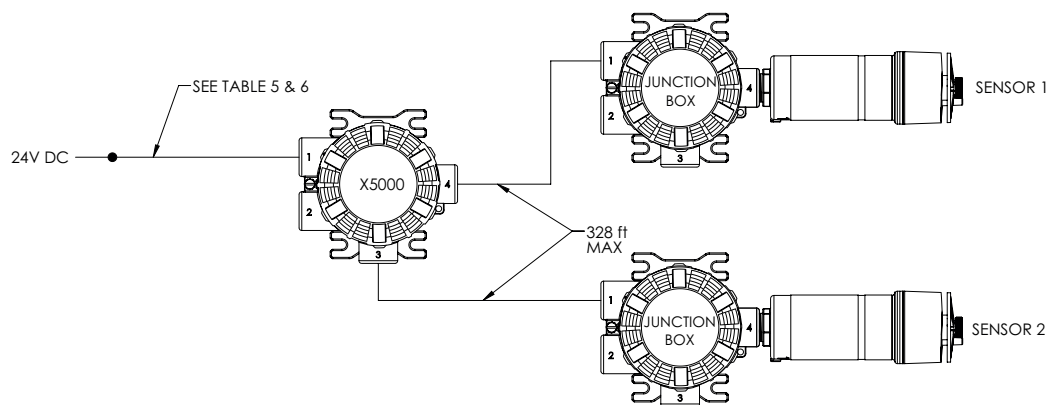
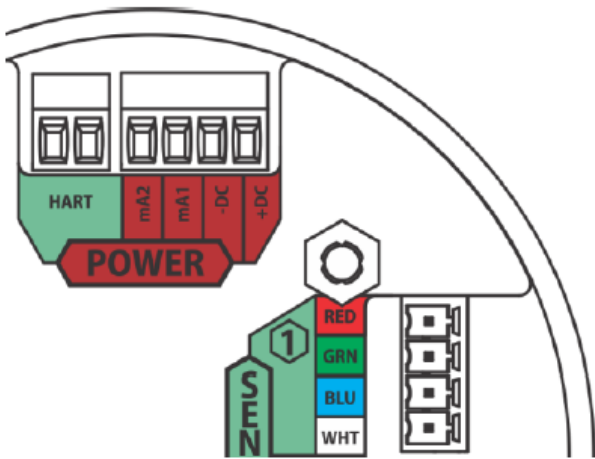
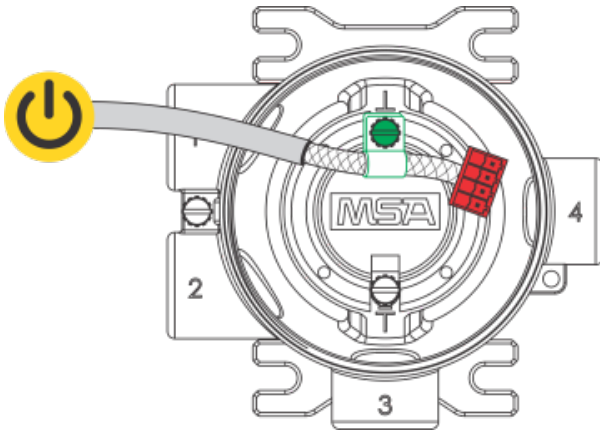
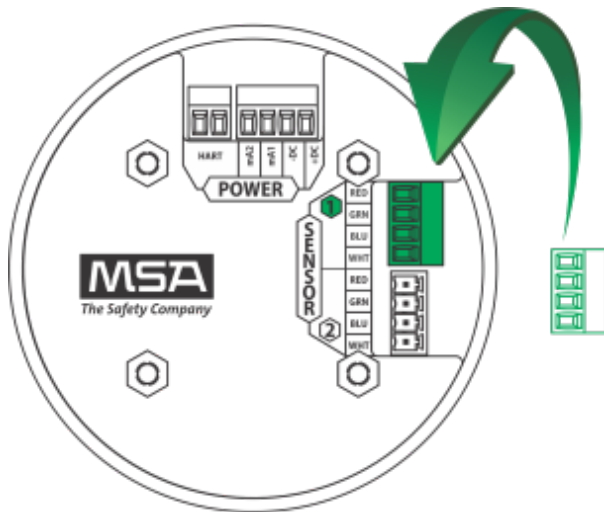

Figure 29 Two Remoted Sensors
Figure 30 Power, HART, and Sensor Inputs
Figure 31 Connecting Power and Grounding Cable
Figure 32 Connecting a Sensor to the Board
Incoming power and signal cables should be a braided shield cable such as Alpha Wire 3248 or equivalent. The braided shield must be terminated to the instrument housing with a 360 degree connection to earth ground as shown in Figure 29 or alternatively, the earth ground at the user's power source location. An external Class 2 power supply is required to supply 11-30 VDC to the ULTIMA X5000. Incoming power and signal cables should be a braided shield cable such as Alpha Wire 3248 or equivalent
Using shielded cable is recommended. The cable shield should be terminated internal to the instrument enclosure using the crimp terminal provided (see Figure 30).
6. Connect the power and analog output wires. Wire locations are marked on the cover plate (see Figure 30 Figure 29):
8. Connect shield of cable to base of instrument housing (see Figure 31 Figure 30).
11. Connect an XCell or XIR PLUS sensor using the green connector. Sensor wires are already connected as shown on the cover plate (see Figure 32 Figure 31):